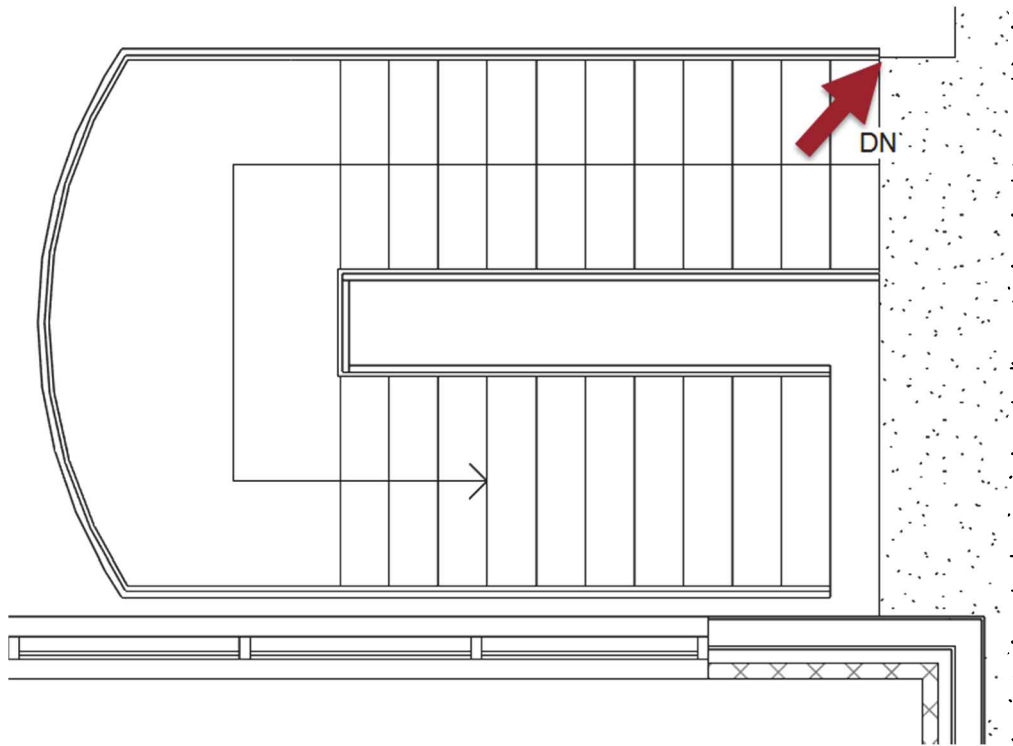

FIGURE 7-8.6 Open stair repositioned to align with Level 2 floor element
14. Select the stair and, using **Move** and **Snaps**, position the stair as shown in Figure 7-8.6 relative to the level 2 floor element.